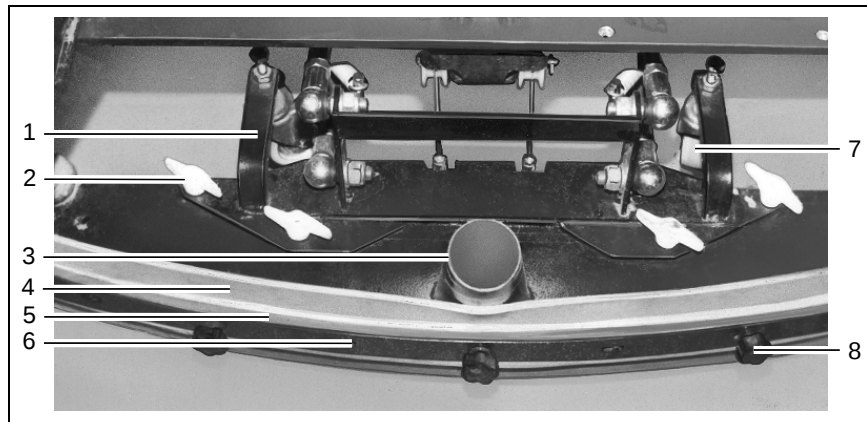

Fig. 38
5. Pull the suction hose from the connection nozzle (Fig. 38/3) of the squeegee.
6. Loosen the wing nuts (Fig. 38/2) on the holding attachment.
The sealing strips (Fig. 38/4) can be changed without the need for any tools:
2. Unscrew the knurled nuts (Fig. 38/8).
3. Remove the sealing strip, support strip and clamping rail (Fig. 38/4-6).
5. Tighten the knurled nuts (Fig. 38/8) evenly, starting from the center and working on alternate sides.
The squeegee stands with the sealing strips (Fig. 38/4) and support rollers (Fig. 38/7) on the ground. To increase the squeegee contact surface of the sealing strips (Fig. 38/4) on the floor, e.g. following wear of the sealing strips (Fig. 38/4), the support rollers (Fig. 38/7) must be set higher:
3. Adjust the support rollers (Fig. 38/7) on the right and left evenly:
5. Tighten the counter nuts on each support roller (Fig. 38/7).